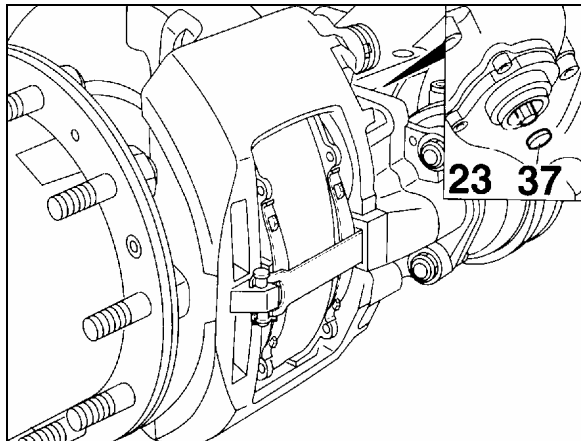

FIGURE 28: ADJUSTER PINION
- Using a box wrench (8 mm), turn the adjuster pinion (23, Fig. 28) counterclockwise about 2 - 3 clicks to increase running clearance. By operating the braking system about 5 - 10 times (30 PSI or 2 bar), the wrench should turn clockwise in small increments if the adjuster is functioning correctly (Figs. 28 and 29).